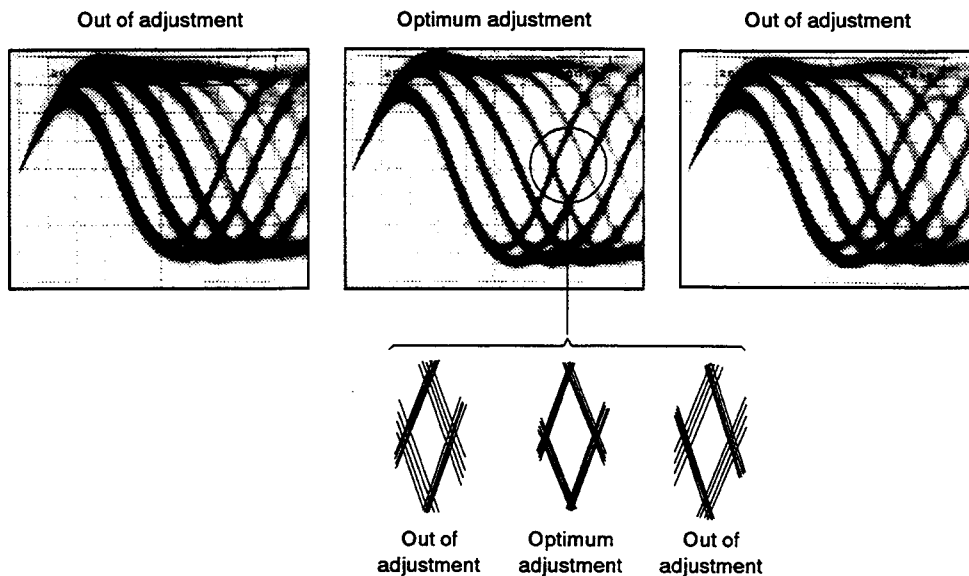

Fig. 3 Eye Pattern
3. Next, adjust the tangential tilt adjustment screw with a Phillips screwdriver so that the eye pattern (the diamond shape at the center of the RF signal) can be seen the most clearly (Fig. 3).
3. Next, adjust the tangential tilt adjustment screw with the hexagon wrench (GGK1002) so that the eye pattern (the diamond shape at the center of the RF signal) can be seen the most clearly (Fig. 3).